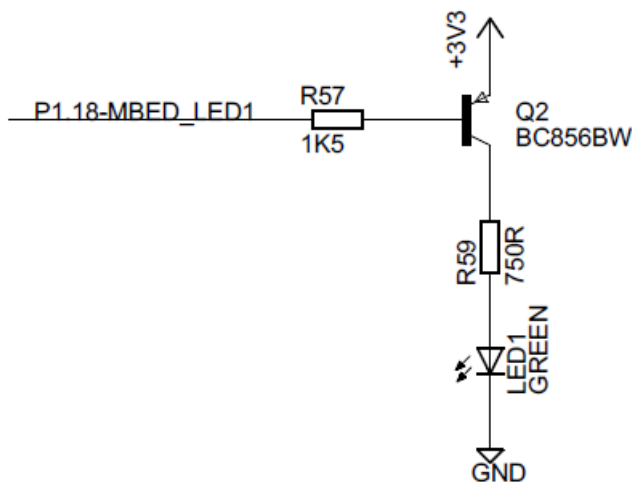

Figure 1: Connection for LED 1 & 2
*LED circuits and effects on code.* The green (LED1 and LED2) and blue (LED3 and LED4) LEDs are connected to the processor using different circuits (figures 1 and 2 [Emb, 2014b]).
LED 1 & 2 ARE CONNECTED AS PART OF THE USB SYSTEM. The circuit in figure 1 is controlled by the PNP transistor. This transistor is “on” when the voltage to the base is low. A logic 0 (LOW) switches on the device. This is why in the code, writing to the CLR register (clearing the bit) the LED turns on.